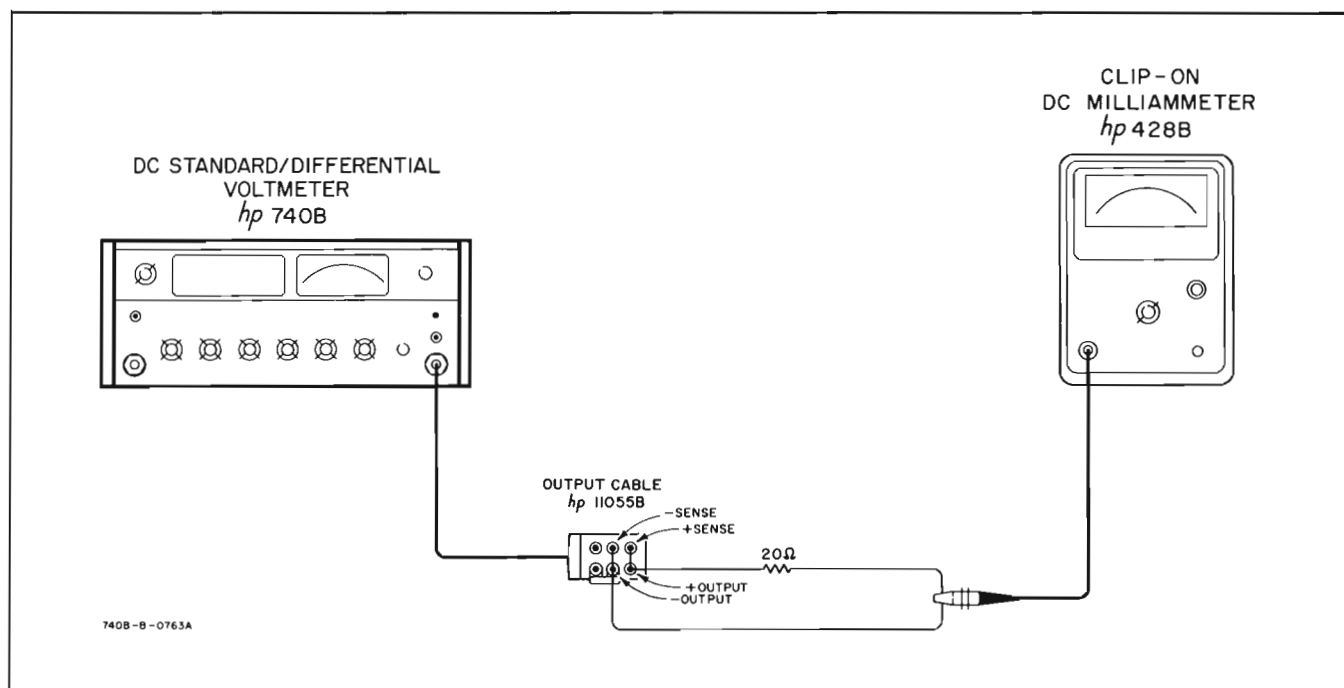

Figure 5-2. Current Limit Test
- Connect test setup shown in Figure 5-2.